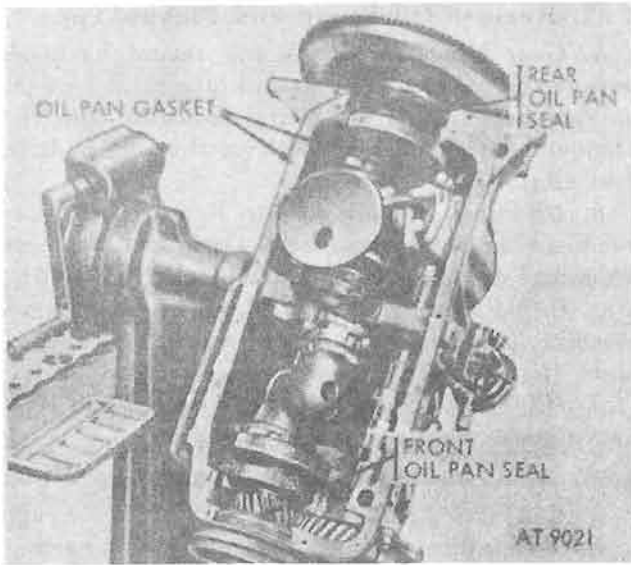

Figure 4-88. Oil pan gasket and seals.
c. **Oil Pan Gaskets and Seals.** Remove and discard oil pan front and rear seal. Discard left and right gasket (fig. 4-88).